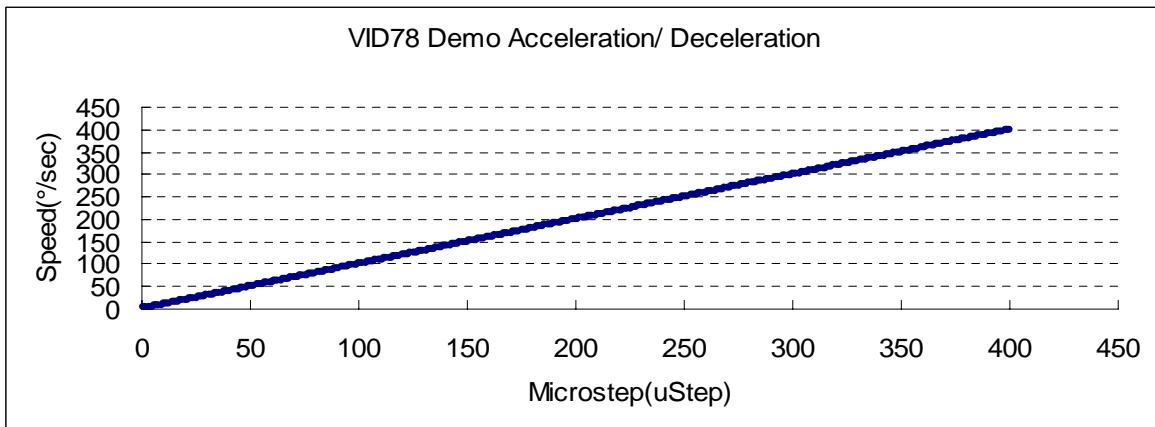

Figure2 – VID78 demo acceleration or deceleration curve
- To start or stop at each stopping position, speed acceleration or deceleration is required, it is according to the acceleration/deceleration curve(figure 2).